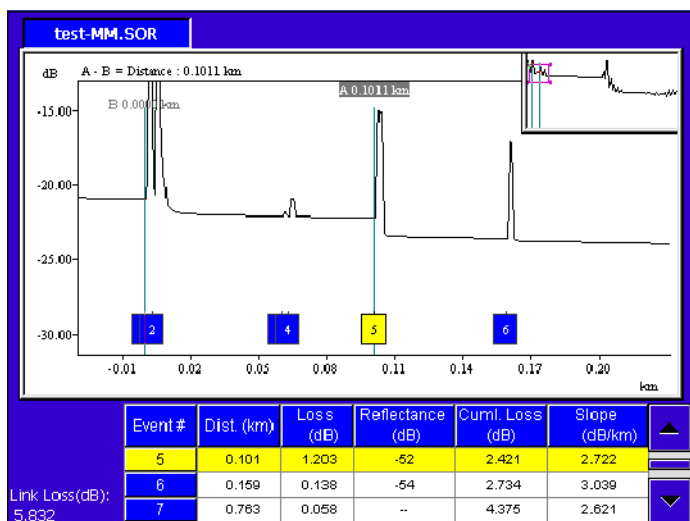

**Figure 2-20: Event 5 (high loss) and Event 6 (low loss) are both patch panel connectors**
**13.** Look at Events 5 and 6 shown in Figure 2-20.